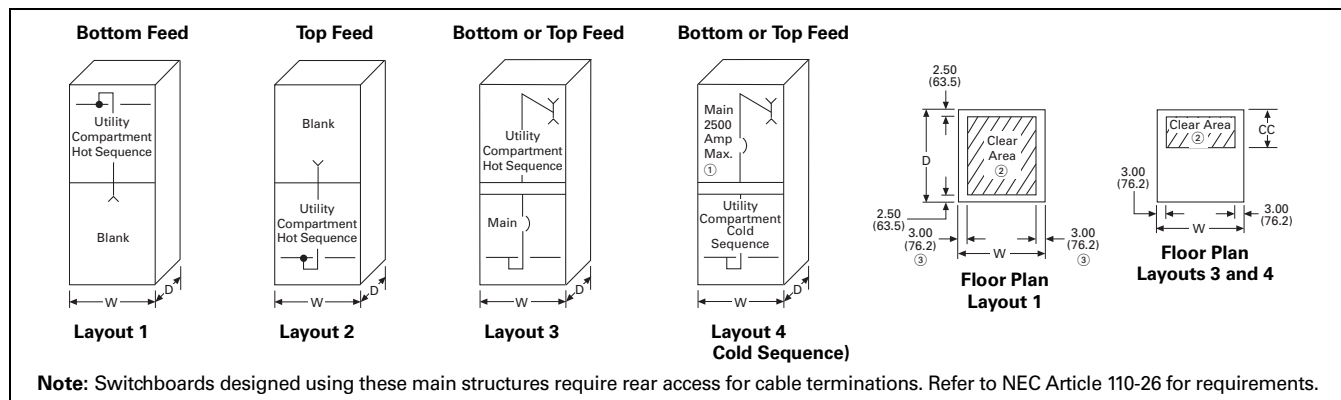

Figure 21.2-1. Utility Compartment Layouts—Dimensions in Inches (mm)
Table 21.2-1. Dimensions for Figure 21.2-1 Layouts—Dimensions in Inches (mm)
**Table 21.2-1. Dimensions for Figure 21.2-1 Layouts—Dimensions in Inches (mm) (Continued)**